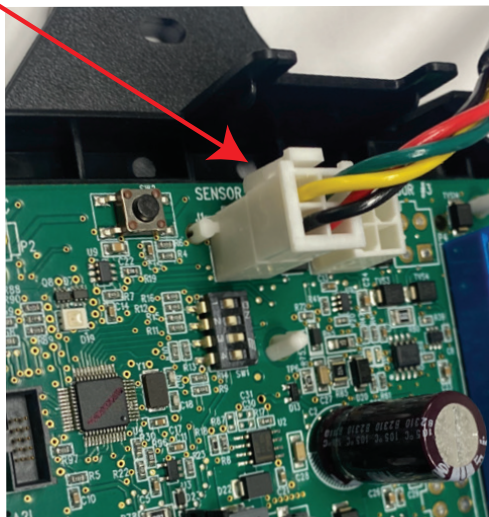

Figure 4. Connecting the RDS sensor to RDS Non-Communicating Control Board
Ensure the cable is properly connected into the number one (1) sensor plug. The Molex plug clip should lock into the Molex connection point for a secured connection, as shown below in Figure 4. Verify the connection is free of dust, debris, and moisture.